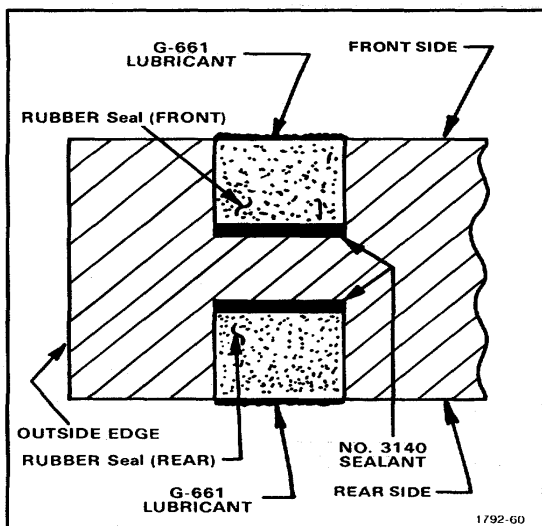

Figure 5-6. Rubber Seals, edge sealing for subpanel.
2. Apply a film of No. 3140 sealant to the inner surface of each groove. See Fig. 5-6. Do not apply the sealant to the other surfaces of the grooves. No. 3140 is more fluid than No. 3144 and can be applied with a hypodermic type applicator.
4. Before installing the instrument in a cabinet, lubricate the outer edges of the seals as shown in Fig. 5-6.